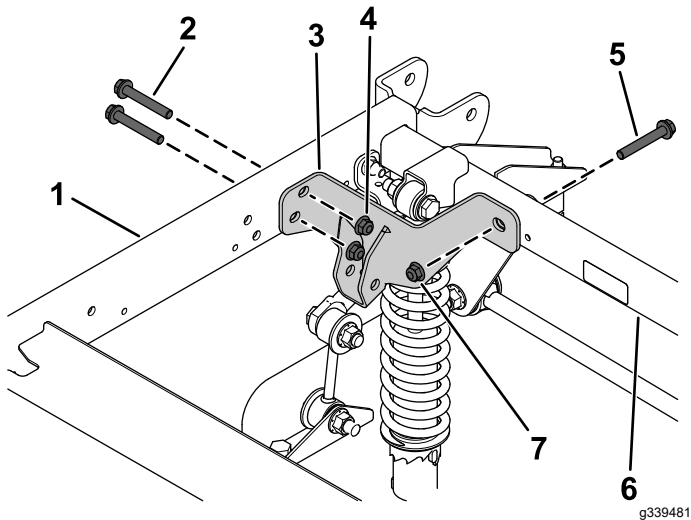

Figure 7
4. Secure the lift bracket to the rear and right frame tubes using the previously removed flange-head bolt and locknut and new 2 flange-head bolts (3/8 x 2-1/2 inches) and 2 locknuts (3/8 inch) as shown in Figure 7.